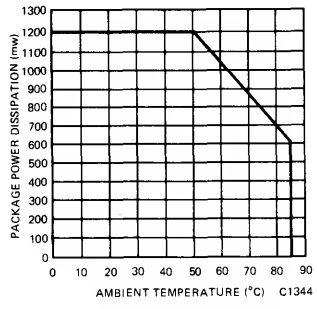

Fig. 4. Max. Tolerable Power Dissipation
- If operating temperature is above 50°C, then power dissipation must be derated. Using Derating Factor of -17.1 mW/°C for total package: Or see Fig. 4.